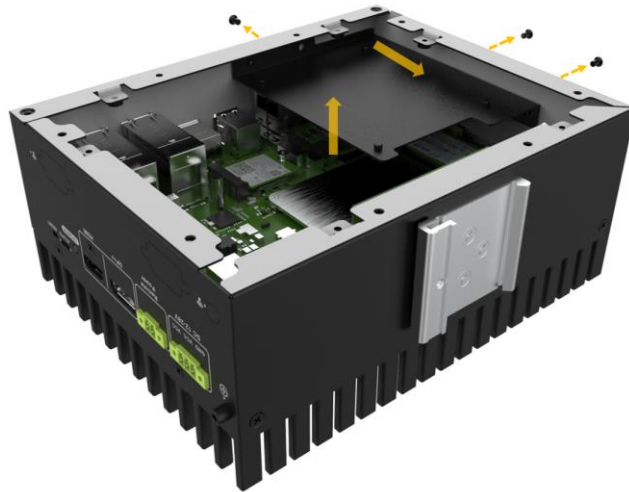

Figure 3-2: Removing the HDD Bracket
Step 2: Remove the HDD bracket as indicated by the arrows in Figure 3-2.